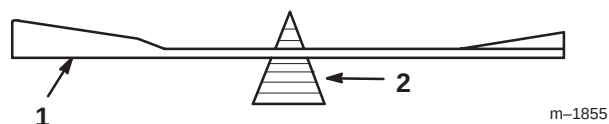

Figure 29
2. Check the balance of the blade by putting it on a blade balancer (Fig. 29). If the blade stays in a horizontal position, the blade is balanced and can be used. If the blade is not balanced, file some metal off the end of the sail area only (Fig. 27). Repeat this procedure until the blade is balanced.